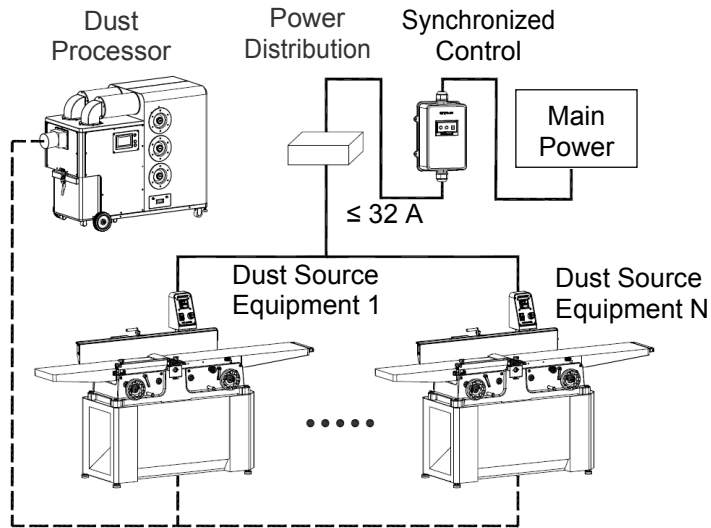

Fig. 7
Installation Mode A: one dust processor + one synchronized control + multiple dust source equipment, as shown in Fig. 7;
1) Connect the synchronized control to the system, as shown in Fig. 7.